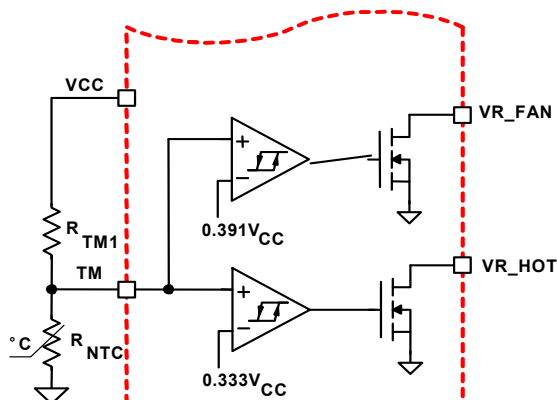
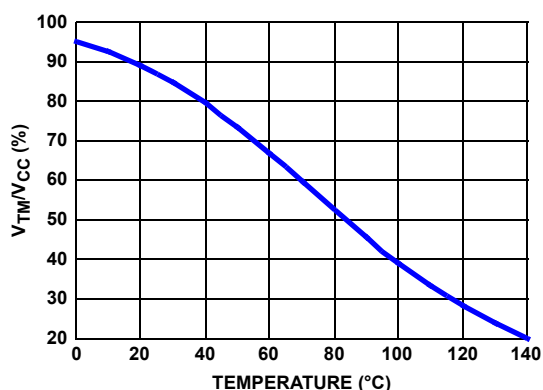

FIGURE 17. BLOCK DIAGRAM OF THERMAL MONITORING FUNCTION
FIGURE 18. THE RATIO OF TM VOLTAGE TO NTC TEMPERATURE WITH RECOMMENDED PARTS
The diagram of thermal monitoring function block is shown in Figure 17. One NTC resistor should be placed close to the power stage of the voltage regulator to sense the operational temperature, and one pull-up resistor is needed to form the voltage divider for the TM pin. As the temperature of the power stage increases, the resistance of the NTC will reduce, resulting in the reduced voltage at the TM pin. Figure 18 shows the TM voltage over the temperature for a typical design with a recommended 6.8kΩ NTC (P/N: NTHS0805N02N6801 from Vishay) and 1kΩ resistor RTM1. We recommend using those resistors for the accurate temperature compensation.
Based on VCC voltage, the ISL6336D converts the TM pin voltage to a 6-bit TM digital signal for temperature compensation. With the nonlinear A/D converter of ISL6336D, the TM digital signal is linearly proportional to the NTC temperature. For accurate temperature compensation, the ratio of the TM voltage to the NTC temperature of the practical design should be similar to that in Figure 18.
1. Properly choose the voltage divider for the TM pin to match the TM voltage vs temperature curve with the recommended curve in Figure 18.